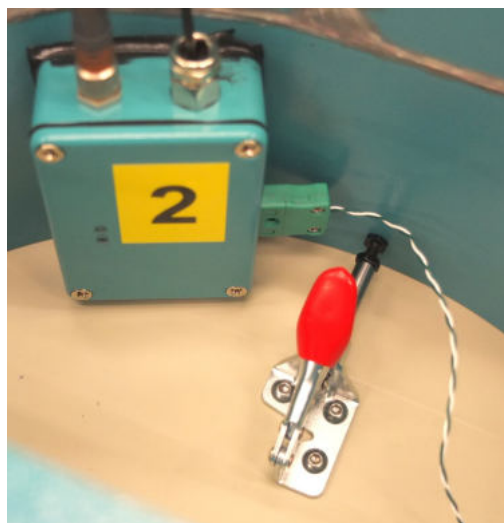

Figure 6: Connection of the thermocouple with the amplifier modul of the inner ring.
- Connect the thermocouple with the amplifier module from the inner ring (fig. 6.) and place the twisted end of the thermocouple into the fresh sample, if required.